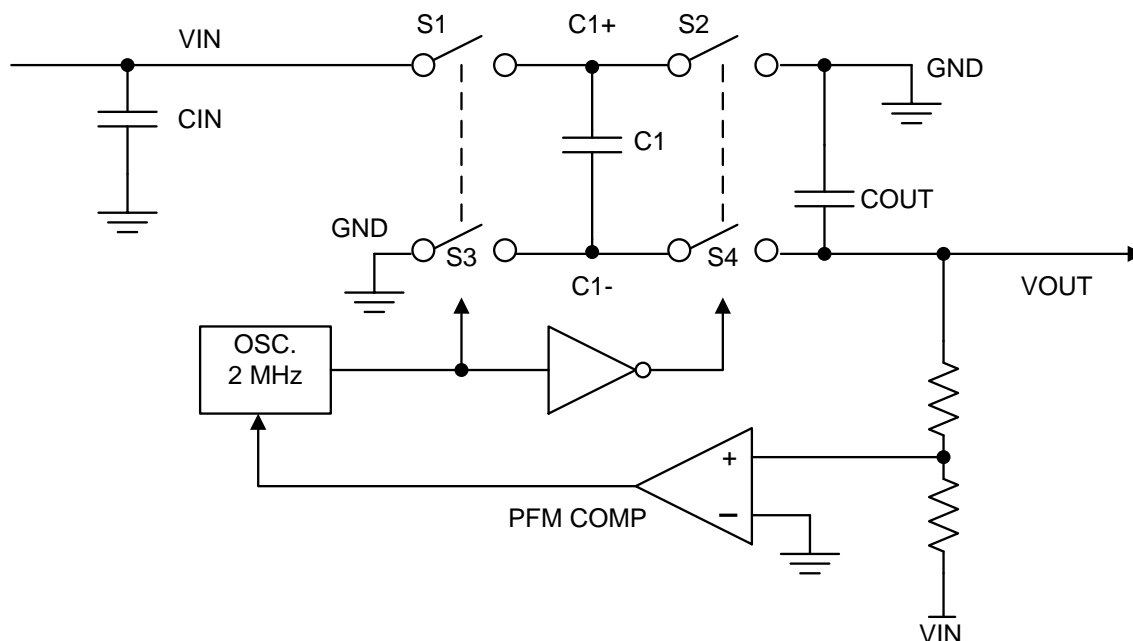

Figure 19. Voltage Inverting Principle
The LM2776 contains four large CMOS switches which are switched in a sequence to invert the input supply voltage. Energy transfer and storage are provided by external capacitors. Figure 19 shows the voltage conversion scheme. When S_1 and S_3 are closed, C_1 charges to the supply voltage V_{IN} . During this time interval, switches S_2 and S_4 are open. In the second time interval, S_1 and S_3 are open; at the same time, S_2 and S_4 are closed, C_1 is charging C_2 . After a number of cycles, the voltage across C_2 is pumped to V_{IN} . Because the anode of C_2 is connected to ground, the output at the cathode of C_2 equals $-(V_{IN})$ when there is no load current. The output voltage drop when a load is added is determined by the parasitic resistance ($R_{ds(on)}$) of the MOSFET switches and the equivalent series resistance (ESR) of the capacitors) and the charge transfer loss between capacitors.
- R_{SW} is the sum of the ON resistance of the internal MOSFET switches shown in Figure 19. (1)